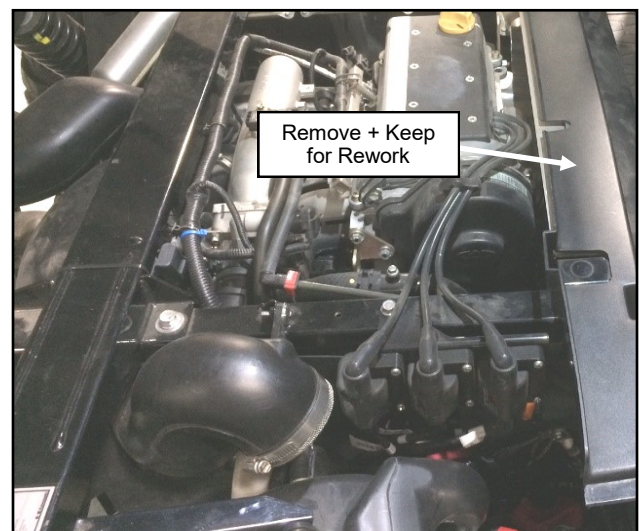

Fig. 2.5 (Remove Rear Seat Cover)
- 2.5** Remove rear seat cover and its mounting hardware which includes (3) plastic rivets, (2) M6X16 screws & (2) spacers per fig. 2.5. Set aside the mounting hardware and place the rear seat cover on a work bench for rework.